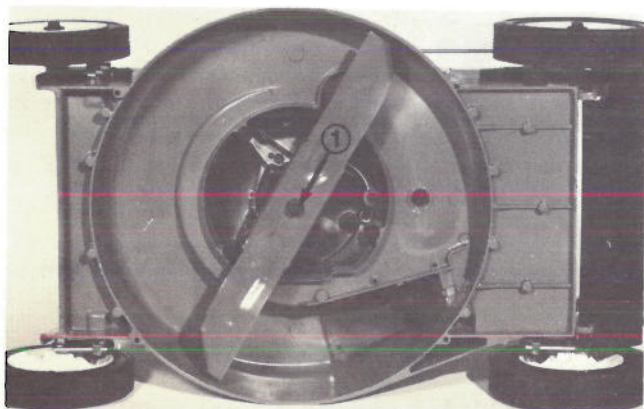

Figure 36
4. Grasp end of blade using a rag or thickly padded glove. Remove capscrew, lockwasher and blade (Fig. 36).
3. Tip mower on its right side (Fig. 36), opposite the spark plug side, and allow it to remain tipped for only a short time. Avoid rotating the blade when mower is tipped because starting problems may result.